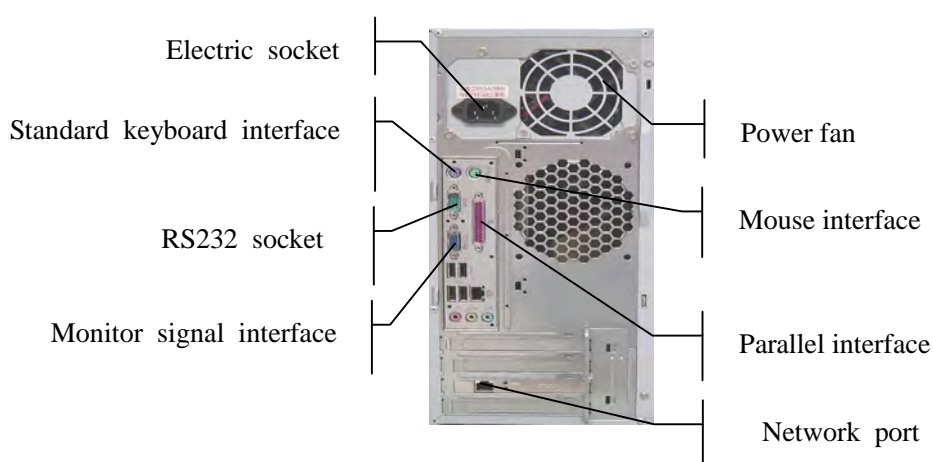

Figure 3-1 Rear panel of the main unit
**Note:** Figure 3-1 is just for reference. The position of corresponding interface may be different according to the actual main unit of the system.
#### **Connection of the main unit of central station (Refer to Figure3-1)**